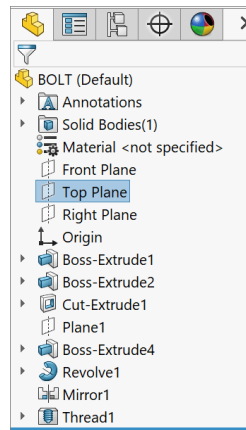

Fig. 41
Step 2. Click **Top Plane**  in the Feature Manager to display Plane in graphics area, **Fig. 41.**